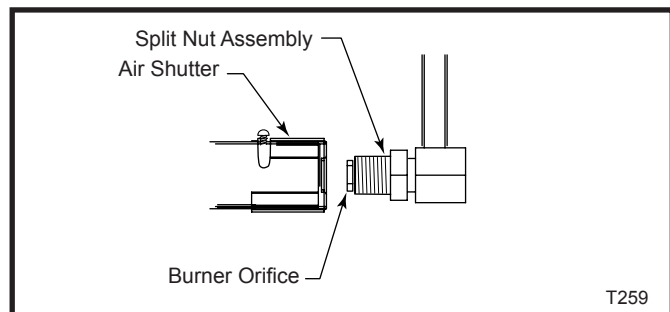

Fig. 42 Replace burner orifice with correct conversion orifice.
5. Using a suitable tool replace natural orifice #47 with propane orifice #56 for model 33TDVDSN, or replace natural orifice #45 with propane orifice #55 for model 36TDVDSN, or replace natural orifice #42 with propane orifice #54 for model 39TDVDSN furnished with conversion kit. Tighten orifice with suitable tool until gas tight. (Fig. 42)